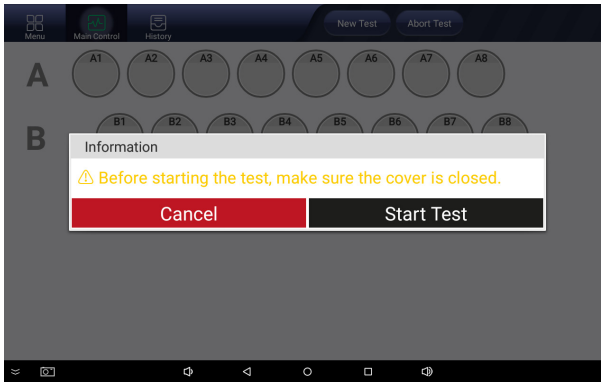

Figure 6.1.12
- ⑤ Before starting the test, make sure that the heated lid is in a closed state, and do not open the heated lid during the detection process, as shown in Figure 6.1.12: